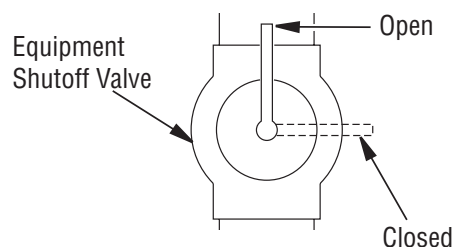

Figure 11 - Equipment Shutoff Valve
1. Close equipment shutoff valve (see Figure 11).
1. Open equipment shutoff valve (see Figure 11).